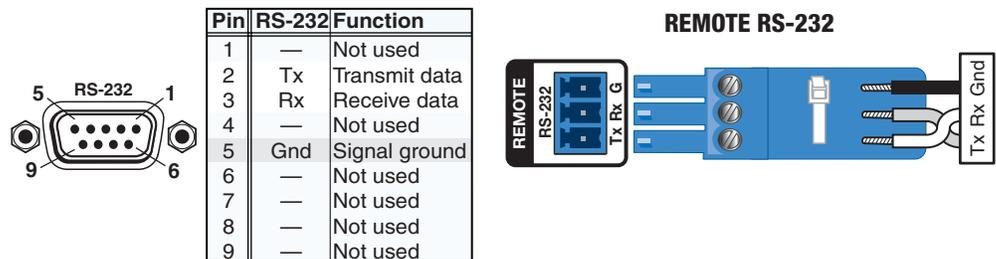

Figure 6. Remote Port Pin Assignments and Wiring Diagram
- **Remote RS-232 port** (see figure 2 on page 6) — Connect a host device, such as a computer or touchpanel controller, to the rear panel bidirectional RS-232 port (see figure 6 for wiring). The default baud rate is 9600.